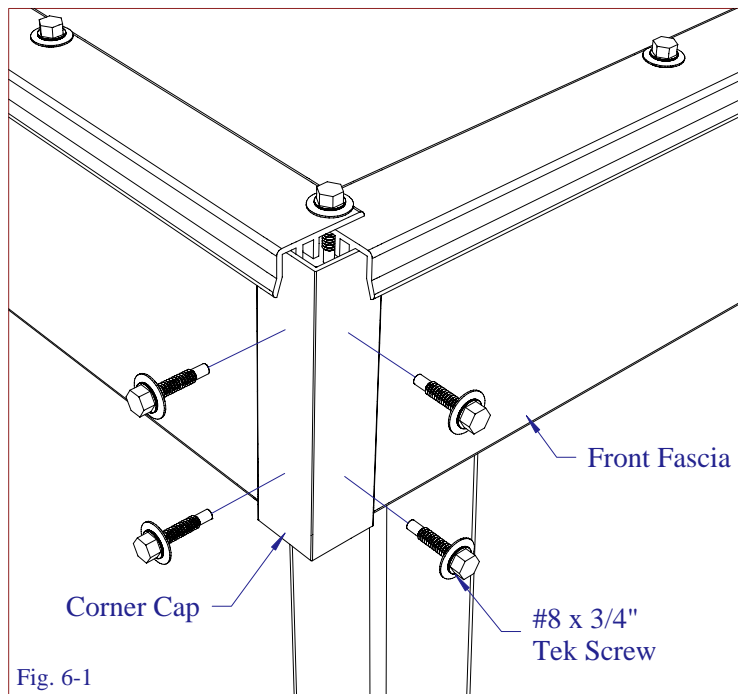

Fig. 6-1
- Using 4 - #8 x 3/4" Tek Screws, attach a corner cap over each corner made by the fascia (see Fig. 6-1). Be sure to insert the corner cap under the outer lip at the top of the fascia.